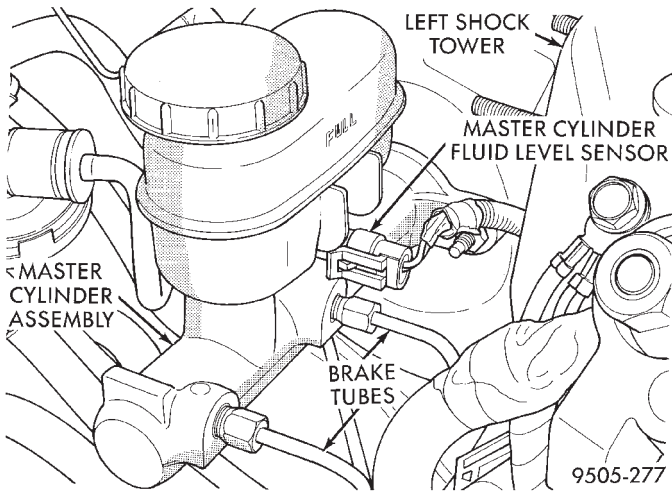

Fig. 95 Master Cylinder Brake Fluid Level Sensor
(8) Remove the vehicle's wiring harness connector from the master cylinder brake fluid level sensor (Fig. 95).
(8) Install the vehicle's wiring harness connector on the master cylinder brake fluid level sensor (Fig. 95).